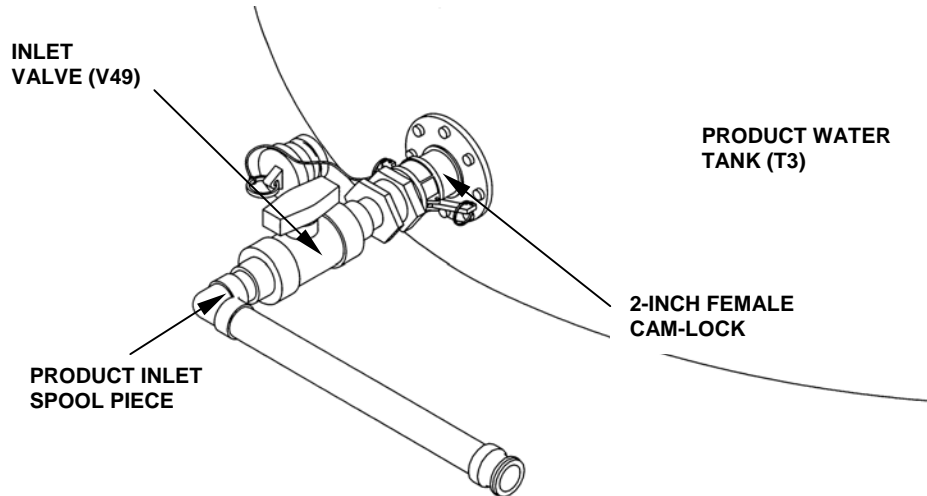

Figure 15. Product Tank Inlet Connection.
34. Connect the product **inlet** spool piece to the product water tank T3 connection (AA). See Figure 15.
35. Make sure that ball valve V49 on the inlet spool piece is open. See Figure 15.